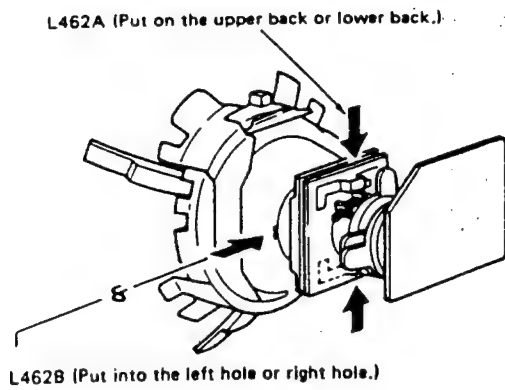

Figure 15.
2. Put a wedge as shown in figure 15 temporarily. (Do not remove cover paper on adhesive part of the wedge.)